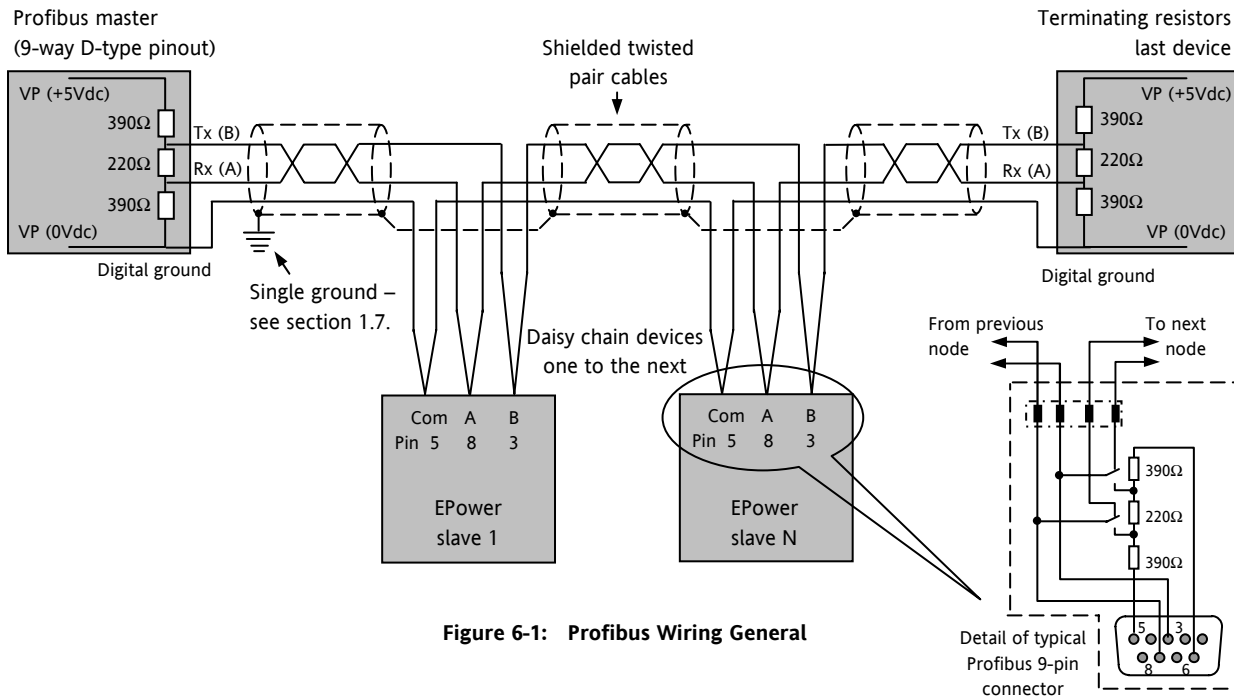

Figure 6-1: Profibus Wiring General
The wiring principles described in section 1.5 apply to Profibus. Line termination is different from standard EIA485 as shown in Figure 6-1.
6. Ensure that the final node on the transmission line (no matter what type of instrument it is) is terminated correctly using three resistors as shown in Figure 6-1, and that only the first and final nodes are so terminated.
4. Ensure that the final node on the transmission line (no matter what type of instrument it is) is terminated correctly using three resistors as shown in Figure 6-1, and that only the first and final nodes are so terminated.